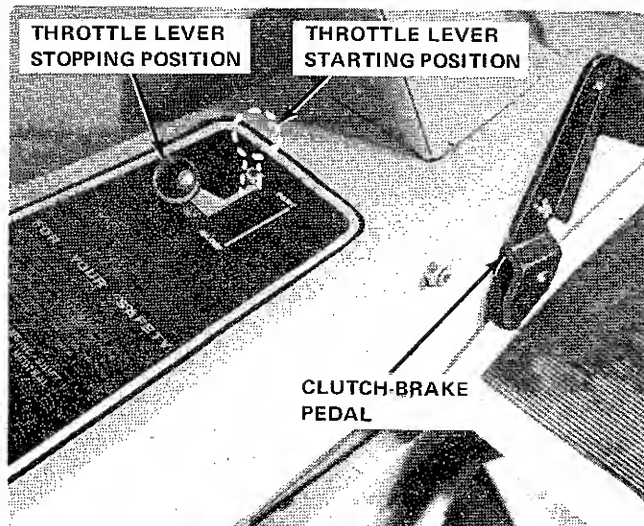

Figure 3-8. Throttle Lever Positioning and Clutch Brake Pedal
1. Throttle lever completely forward. (Figure 3-8).
D. Release brake and clutch pedal (Figure 3-8).